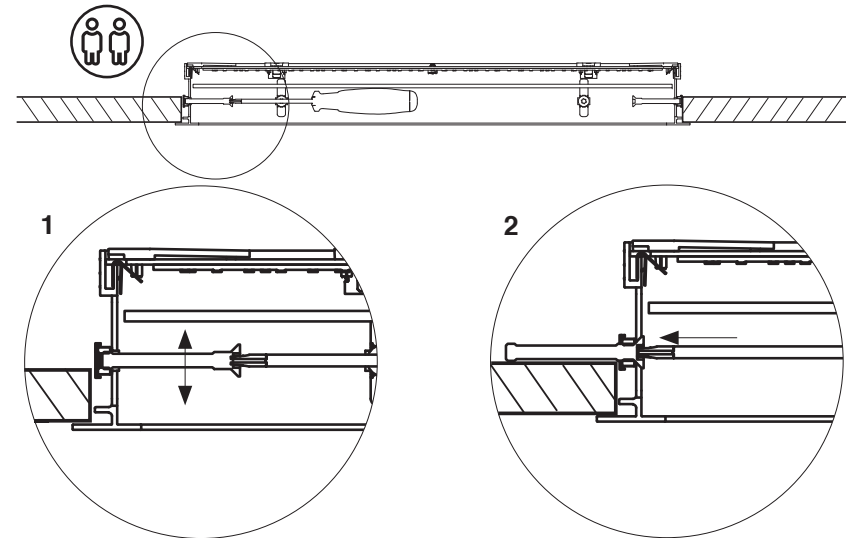

Figure 2
8. Adjust the screw height to the ceiling thickness and fully fasten using a screwdriver. Repeat for all screws to secure fixture. (See Figure 2)